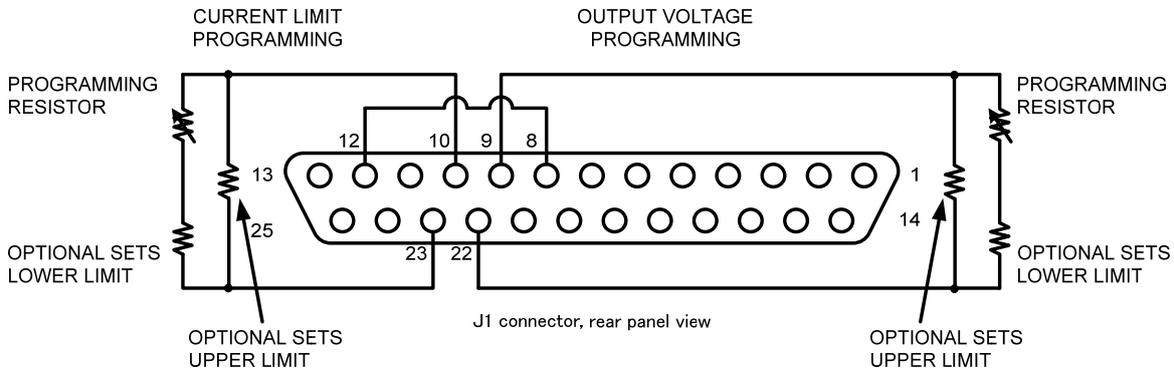

Fig.5-2: Remote resistive programming
- ◆ Refer to Fig 5-2 and "3-4-1. Making J1 connections".
6. Connect the programming resistors to the mating plug of J1-22(VPGM\_RTN), J1-23(IPGM\_RTN) as shown in Fig.5-2.